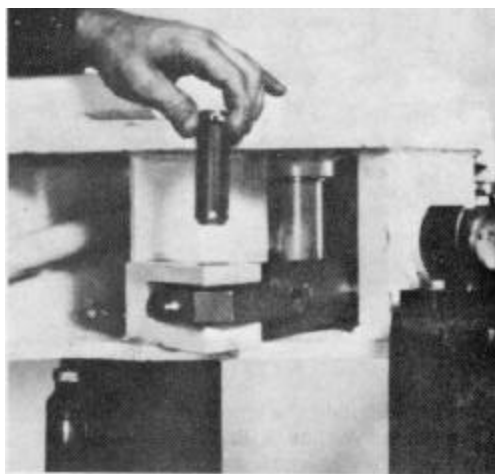

Figure 5-79
2. Lift the cylinder mounting pin up and out of the axle weldment cylinder mounting clevis (Fig. 5-79).